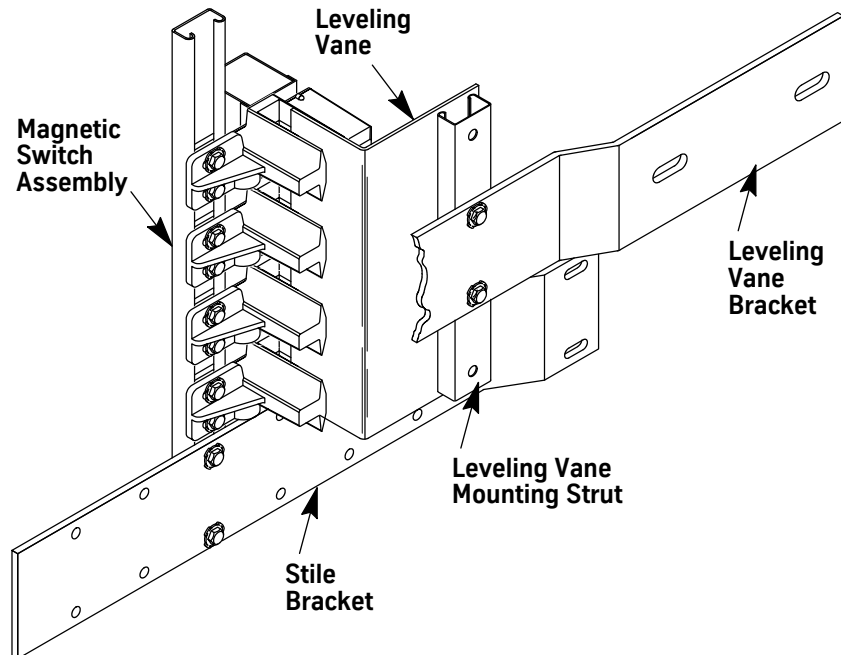

Figure 10 - Close Landing Equipment
1. From the car top, install the switch stile bracket into an available quadrant. See Figure 10 for this and all additional steps in this procedure.